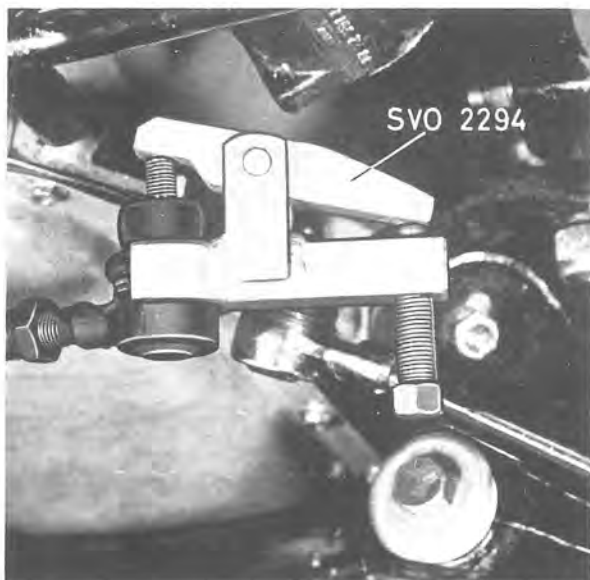

Fig. 6-48. Removing ball joint
The ball joints of the tie rod can be replaced individually. When removing, first take off the split pins and crown nuts. Then place tool SVO 2294 on the ball joints as shown in Fig. 6-48. Press in the tool well and make sure that the thread on the ball joint enters the recess in the tool. Screw in the bolt until the ball joint loosens. Then remove the locknut on the rod and unscrew the ball joint. From the beginning the new ball joint is screwed the same number of turns and this facilitates adjusting toe-in. Lock the ball joint with the rod.
2. Disconnect the steering rod and tie rod ball joints from the relay arm with puller SVO 2294, see Fig. 6-48.
2. Disconnect the ball joints for the steering rod and tie rod from the relay arm with puller SVO 2294, see Fig. 6-48.